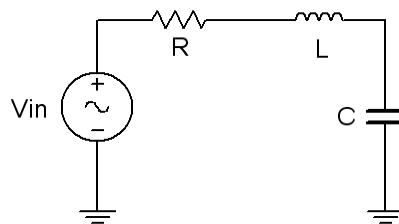

Figure 6.3
22. Using Figure 6.3 with both the 10 nF capacitor and 10 mH inductor, repeat steps 1 through 6 in similar manner, using Tables 6.5 and 6.6. **Using a four channel oscilloscope:** To obtain proper readings, place the first probe at the input, the second probe between the resistor and inductor, and the third probe between the inductor and capacitor. Probe three yields  $V_C$ . Using the *Math* function, probe two minus probe three yields  $V_L$ , and finally, probe one minus probe two yields  $V_R$ . Assigning *Reference* waveforms can be useful to see all of the signals together. **Using a two channel oscilloscope:** Unfortunately, it will be impossible to see the voltage of all three components simultaneously with the source voltage using a two channel oscilloscope. To obtain proper readings, place the first probe at the input and the second probe across the capacitor in order to see the phase and magnitude of  $V_C$ . Then, swap C and L (placing the second probe across the inductor) to see  $V_L$ , and finally, swap L and R (with the second probe across R) in order see  $V_R$ .